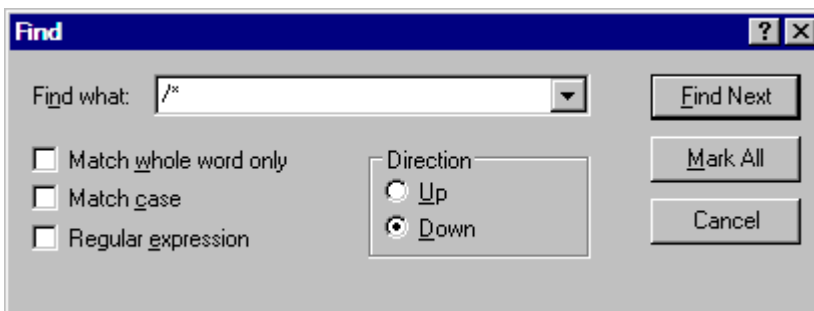

Figure 2-15. Find Dialog Box: Locating Occurrences of /*
2. From the **Edit** menu, choose **Find** to open the **Find** dialog box, shown in Figure 2-15.